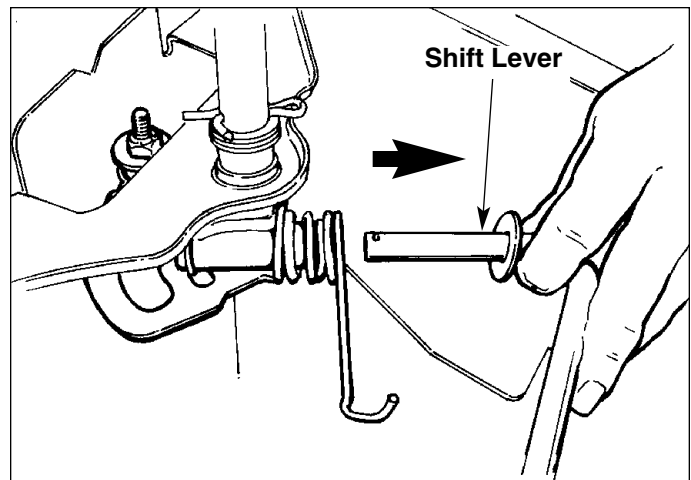

Figure B-12. Slide Shift Lever Out Of Mounting
3. Slide the shift lever out of the shift lever mounting bushings, and inspect for damage. (Figure B-12) Replace as necessary.